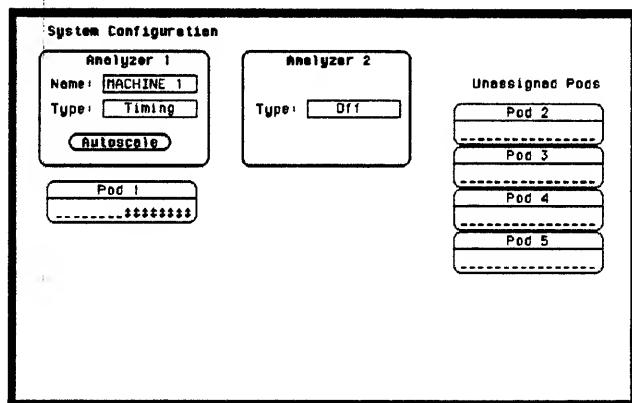

**Figure 3-30. Waveform for Glitch Test**
2. Adjust pulse generator for the output in figure 3-30.